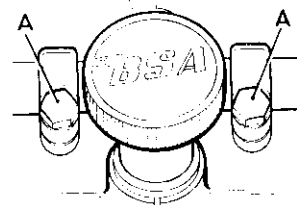

FIGURE 5.
**Handlebars** (Fig. 5).—The position is adjusted after slackening the bolts (A). Tighten these securely after the adjustment is completed.